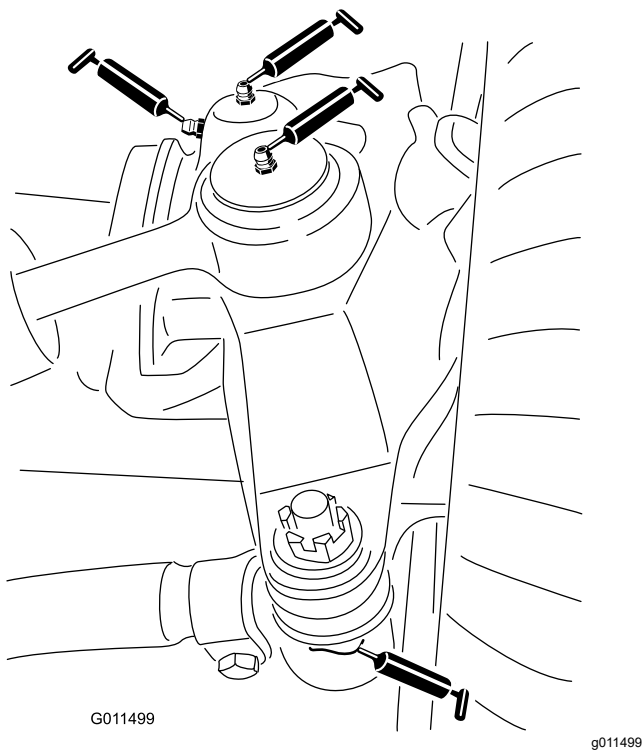

Figure 47
- 2 steering-cylinder-ball joints (Figure 47)
- 2 tie-rod-ball joints (Figure 47)
- 2 king-pin bushings (Figure 47).